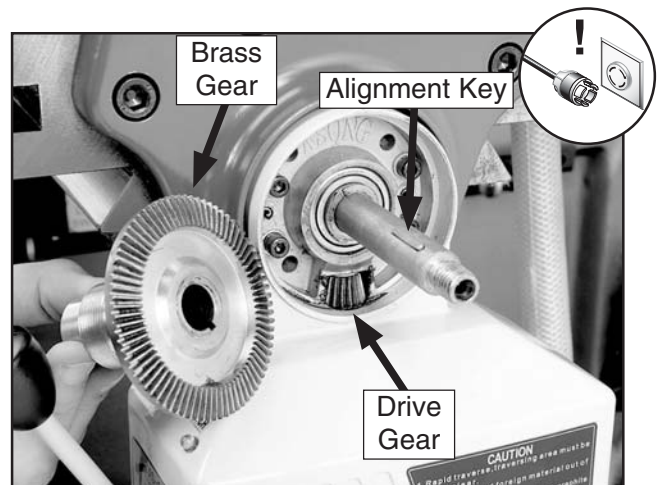

Figure 77. Power feed gears.
5. Brush medium weight white lithium grease on the teeth of the brass gear and the smaller drive gear (see **Figure 77**).